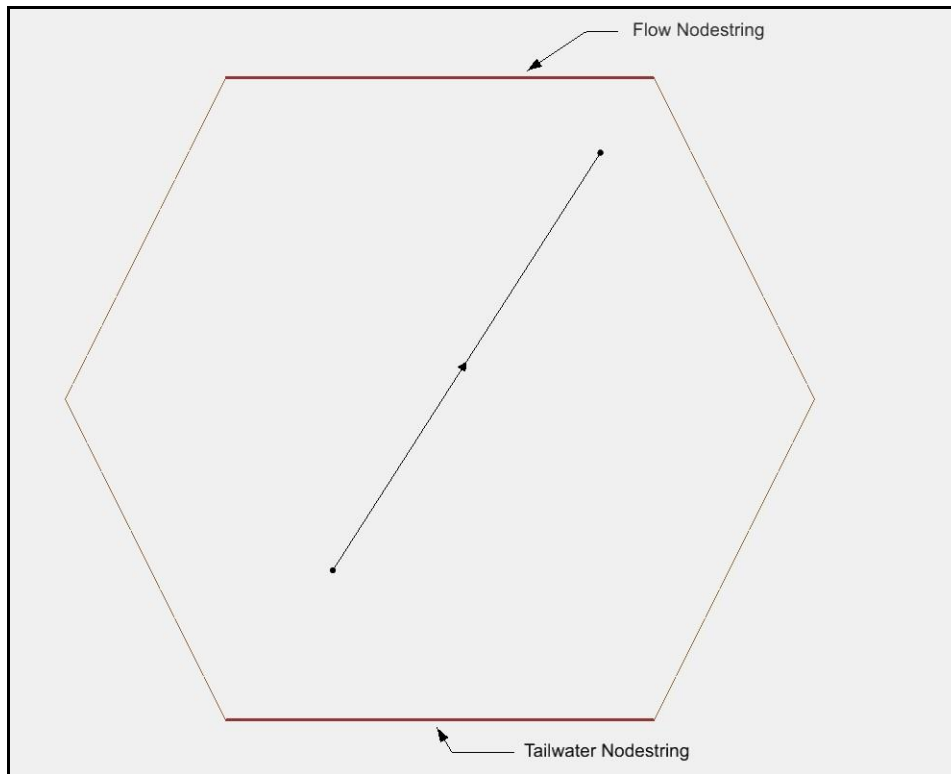

Figure 2 Boundary noderstring locations
An inlet and an outlet to the lake need to be created. The water flowing past is another way to see the effects of the boat. A constant flowrate and water surface elevation will be used throughout this simulation. Two noderstrings will be created: one for flowrate and one for tailwater (water surface elevation), as shown in Figure 2.
3. Hold down the *Shift* key and double-click on the upper-right corner of the mesh, creating a noderstring across the top edge of the hexagon (labeled “Flow Noderstring” in Figure 2).